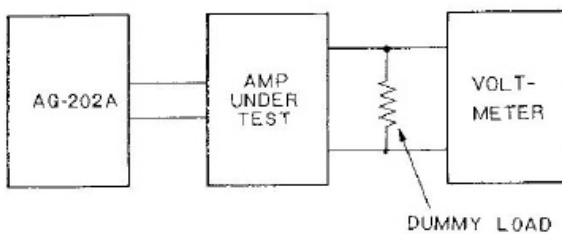

Fig. 2 Test Circuit
Set up the test circuit shown in Fig. 2 with WAVE FORM selector switch of model AG-202A set at position \sim so as to provide the sine wave signal.
WAVE FORM selector switch (6) is set to position Σ . As the test circuit, the one shown in Fig. 2 may be used with the electronic voltmeter replaced with an oscilloscope.